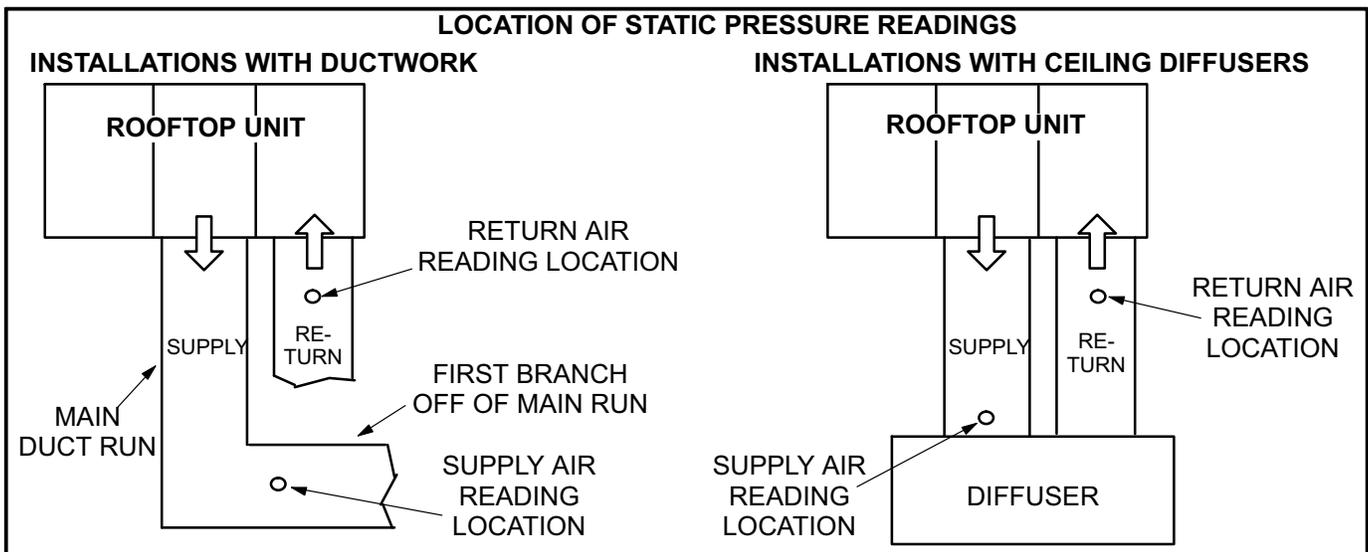

FIGURE 10
- 3- With all access panels in place, measure static pressure external to unit (from supply to return). Blower performance data is based on static pressure readings taken in locations shown in figure 10.